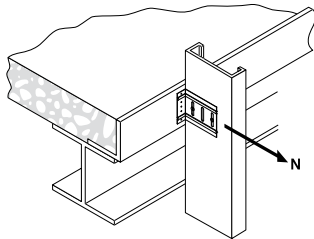

Figure 7: Lightweight concrete with pour stop
- Allowable load based on a safety factor of 5.0 in direction shown in Figure 7 for attachment of deflection slip clip to 3000 psi Lightweight Concrete Slab with 12 GA. sheet steel pour stop with minimum yield strength $F_y = 33$ ksi.